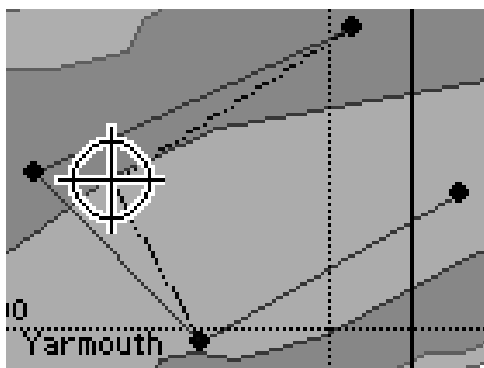

Figure 6.39b MOVEMENT menu (3)
- (8) Move the node using the Joystick. (Figure 6.39b)